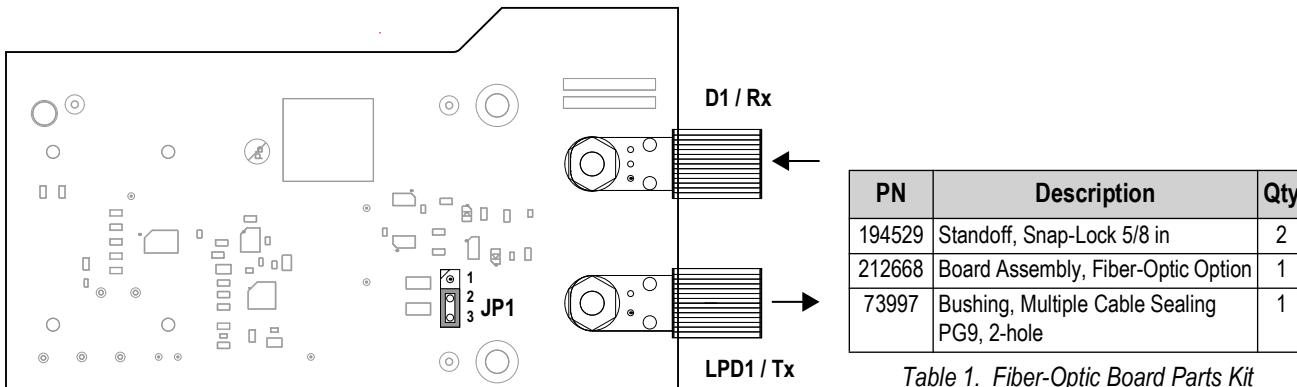

Figure 1. Fiber-Optic Board
5. Attach fiber-optic cables to connectors D1 (detector/receive) and LPD1 (transmitter/send) (See Figure 1 on page 1).